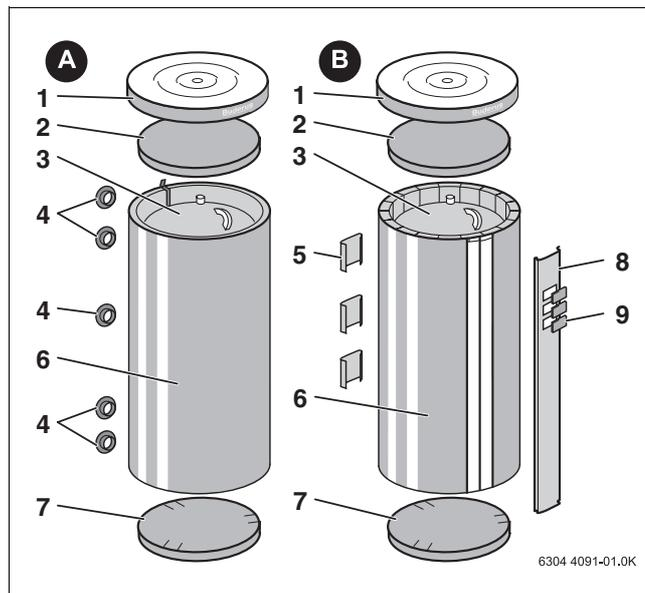

Fig. 1 A: P 500/750/1000 S-80
(→ fig. 1, (A))
(→ fig. 1, (B))